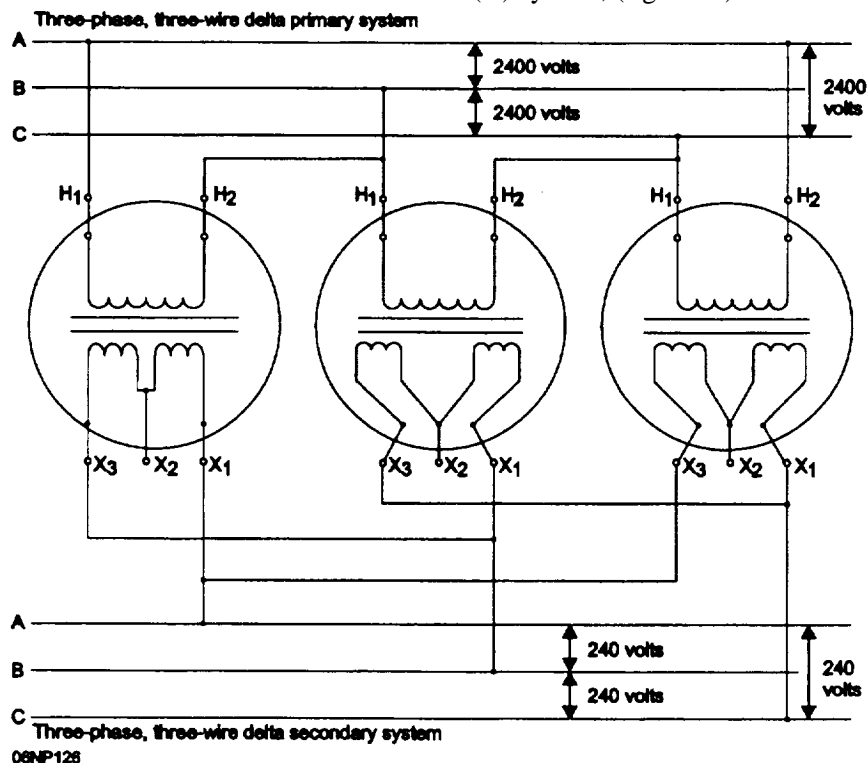
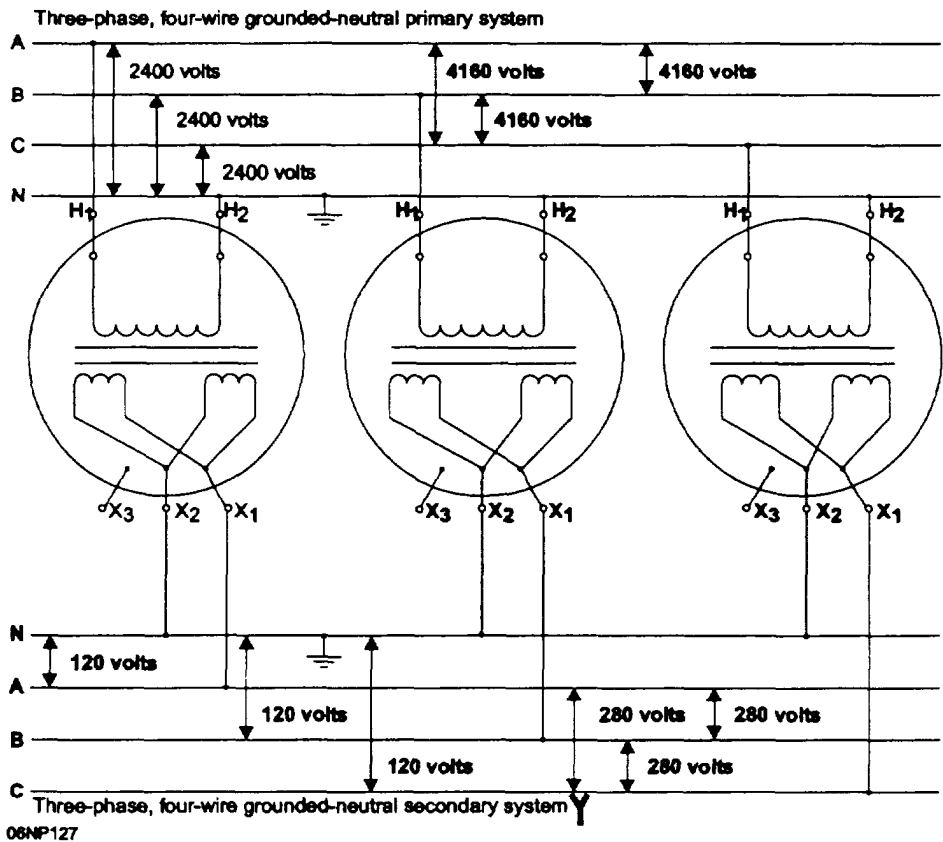

Figure 4-29.—Three-phase delta (A) primary and secondary system.
Figure 4-30.—Three-phase wye (Y) primary and secondary system.
Distribution circuits (primary main circuits) are circuits that originate from the distribution substation. Primary mains are circuits carrying over 600 volts, but generally they operate between 2,400 and 34,500 volts. Primaries can be found in single-phase or three-phase configurations and generally operate as three-phase, three-wire or three-phase, four-wire circuits. Two types of primary circuits are in use today. One, the delta type (A) system, (fig. 4-29) is used when most of the load in
an area is commercial, consisting of motors and other three-phase equipment. The other type of circuit is called the wye (Y) system (fig. 4-30) and is used primarily for residential use.
Secondary circuits (secondary mains) are circuits that originate from the secondary windings of a distribution transformer and are 600 Vac or less. The secondary circuits are also configured either delta (A) (fig. 4-29) or wye (Y) (fig. 4-30) and are also used for the same type of loading as the primary circuits.